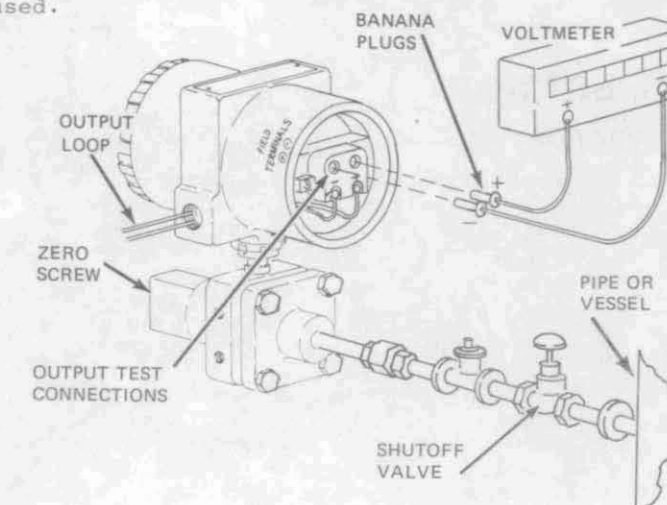

Figure 10
1. Connect voltmeter (Figure 10) to output test connections in field-terminal compartment in topworks. Close shutoff valve.